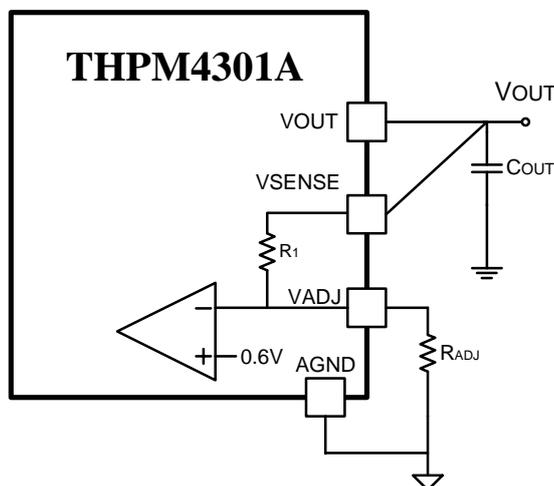

Fig. 15 Output Voltage Setting
VADJ (H4)	Output voltage adjustment pin . Connect a resistor, R ADJ , between VADJ pin and AGND pin to set the desired output voltage, as shown in Fig. 15.
The output voltage of THPM4301A can be adjusted from 0.6V to 3.6V using an external resistor between VADJ pin and AGND pin, as shown in Fig. 15. The required resistor value  $R_{ADJ}$  can be calculated using equation (1).
where  $R_1 = 20k\Omega$  and  $V_O$  is the desired output voltage in Volts. For best set-point accuracy, it is recommended to use a 0.1% tolerance resistor. [Note:  $R_1$  is internal to the module as shown in Fig. 15].